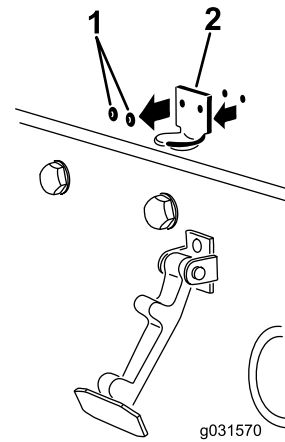

Figure 6
2. Remove the 2 rivets securing the hood-latch bracket to the hood (Figure 6).